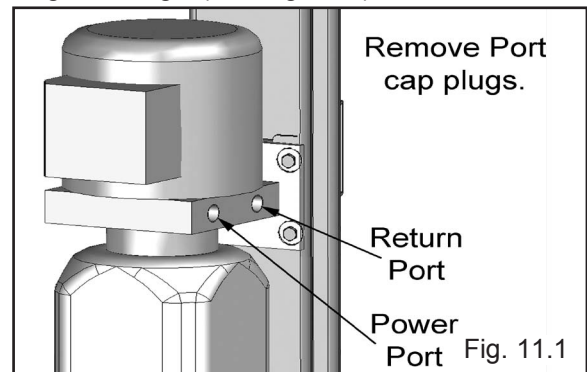

Fig. 11.1
1. Remove the shipping plugs from both ports prior to installing the fittings. (See Fig. 11.1)